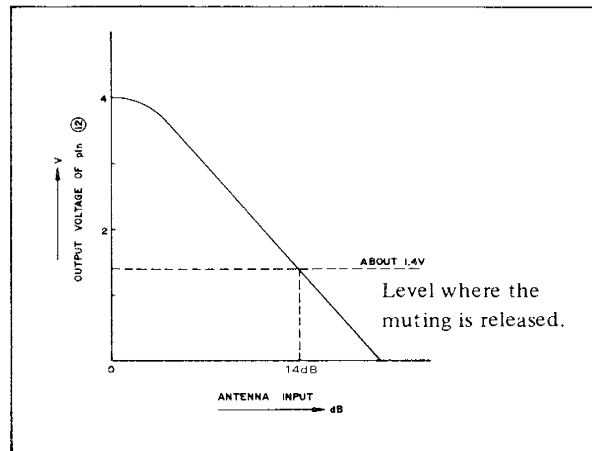

Figure 14
Fig. 14 shows the output voltage of two outputs, one is at the terminal ⑫ of IC101 and another, at the collector of transistor Q105, to be added to each other.